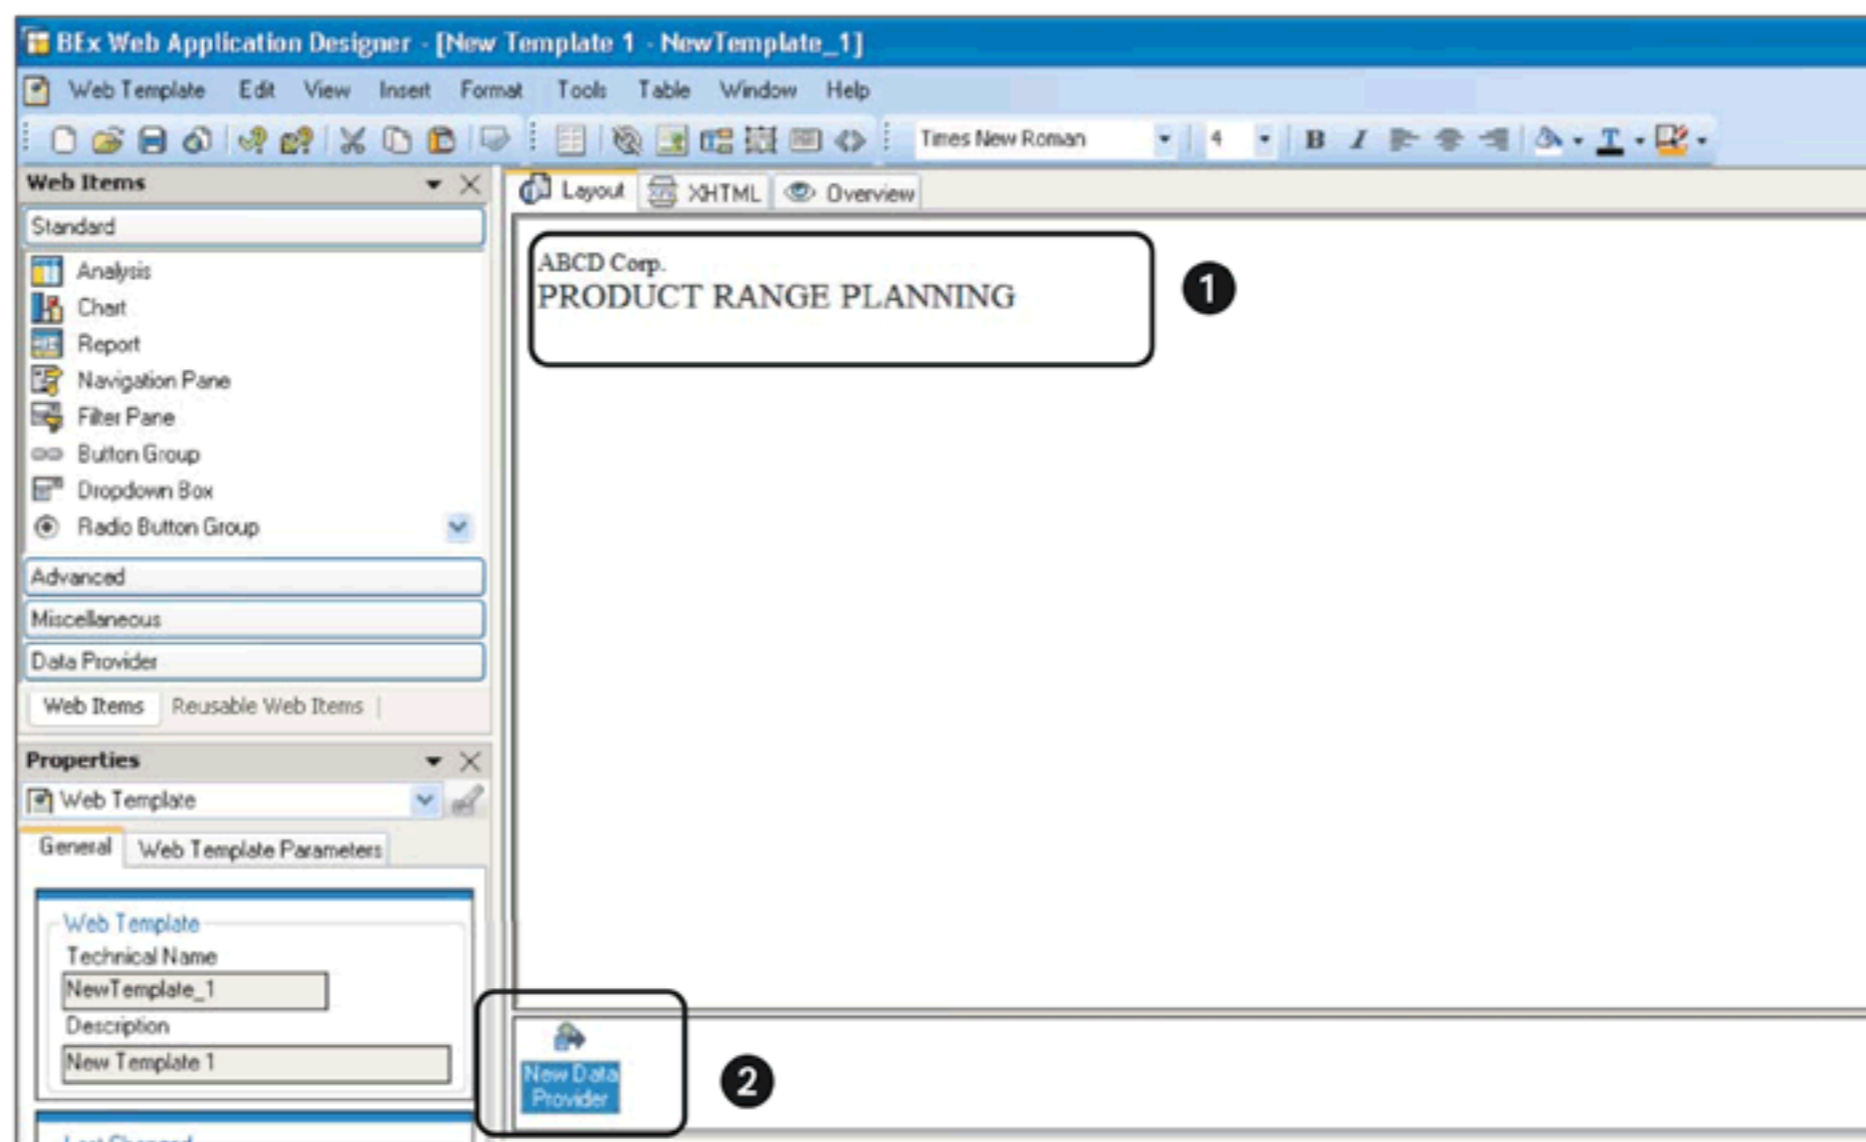
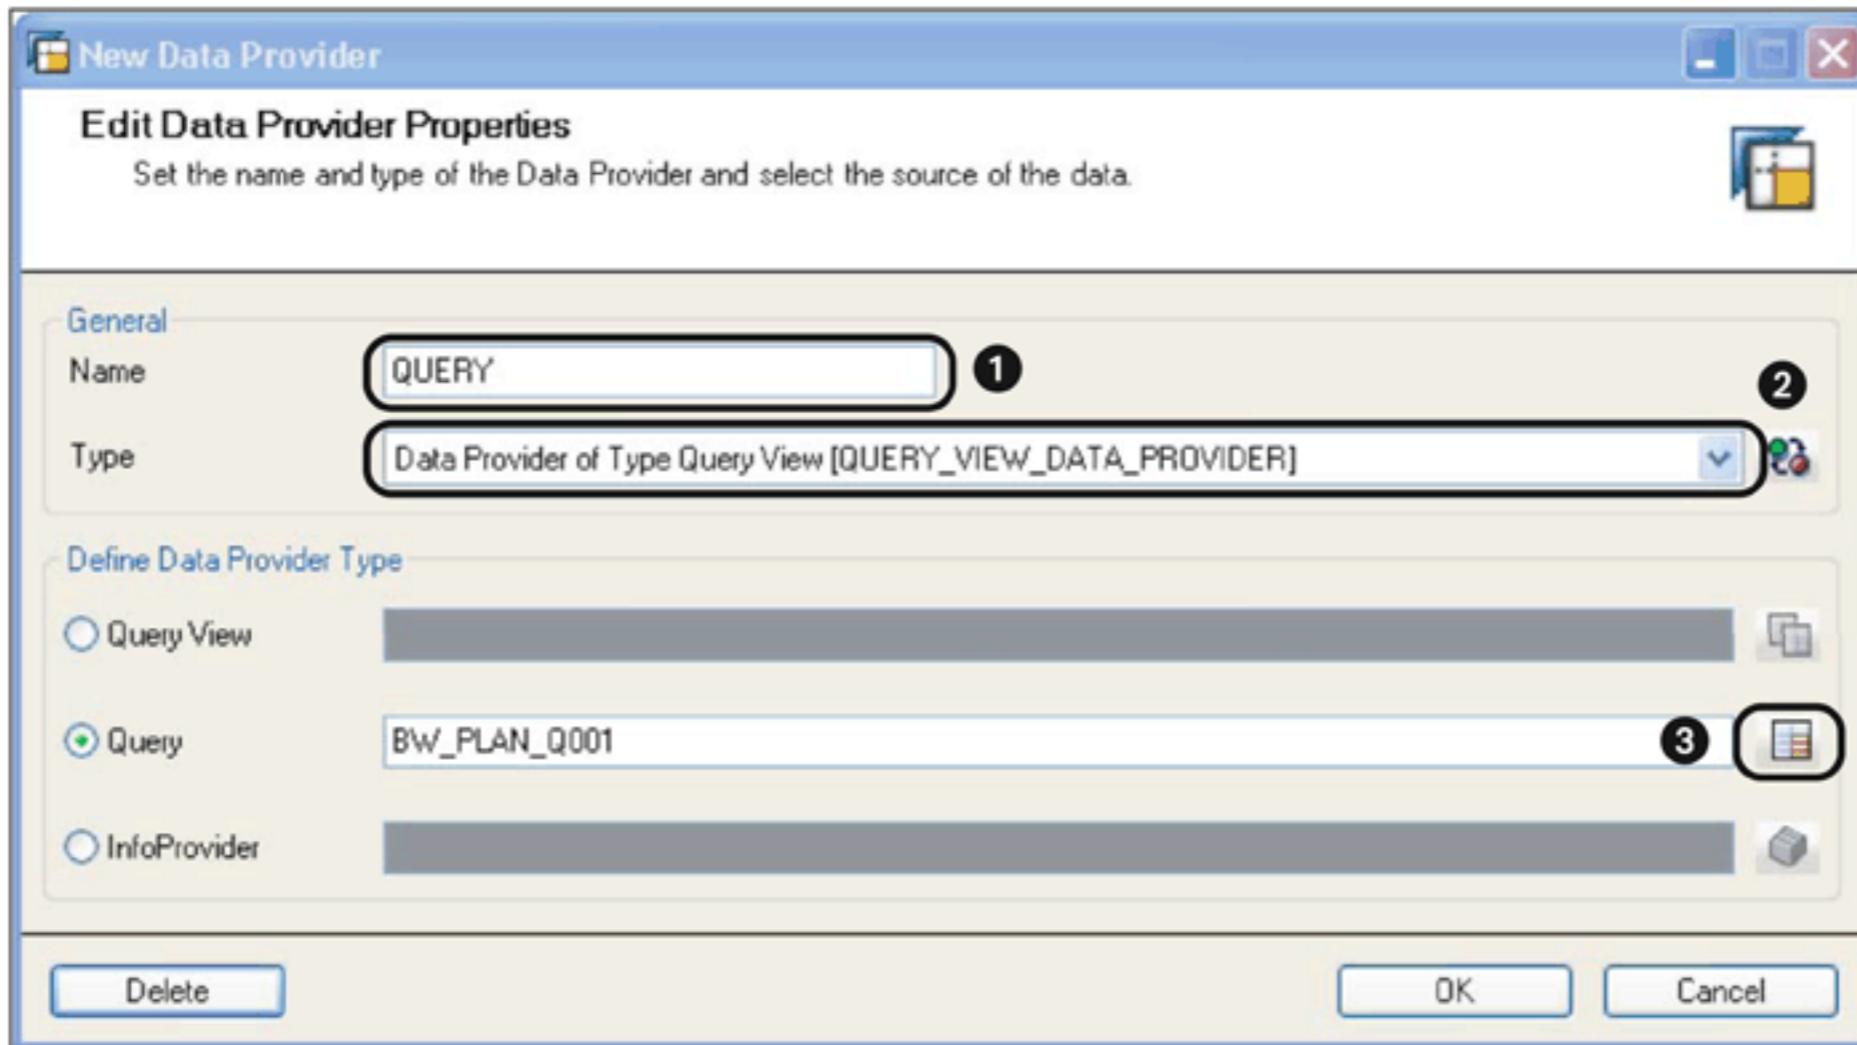

Figure 12.73 Create Heading for Planning Application
Figure 12.74 Define Data Provider for Input-Ready Query
Open BEx Analyzer from **START MENU • PROGRAMS • BUSINESS EXPLORER • WEB APPLICATION DESIGNER**, and open a new web template. Create the heading for the planning application using the font options available in the web template (❶ of Figure 12.73).
Define a new data provider based on the input-ready query. Click on the **NEW DATA PROVIDER** icon shown in ❷ of Figure 12.73. In the pop-up screen, give a description for the data provider (❶ of Figure 12.74). Select the type of data